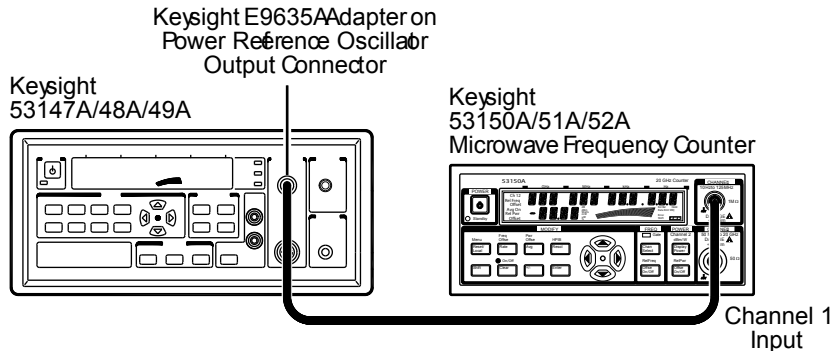

Figure 1-7 Reference Oscillator Frequency Adjustment Setup
- 1 Connect an Keysight E9635A adapter to the Keysight 53147A/48A/49A's Power Meter **OUTPUT** connector as shown in **Figure 1-7**.